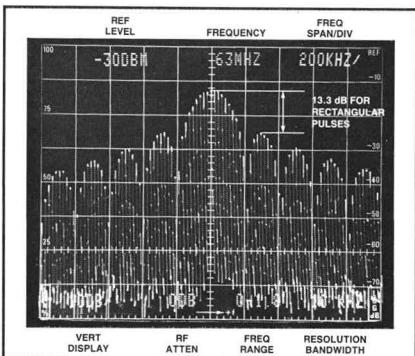
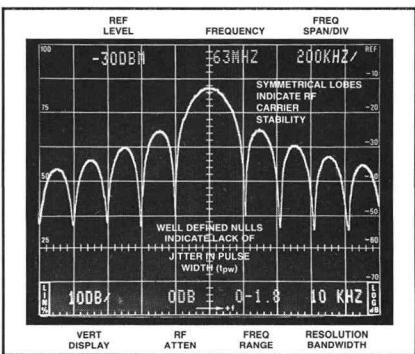

Figure 26. Frequency domain display of pulse waveform.
Figure 27. Envelope of pulsed signal
The same pulse waveform when displayed in the frequency domain would appear as shown in Fig. 26. Note that the pulse width (t_{pw}) and
display shown in Fig. 27. We can see that the amplitudes in Fig. 26 lie within the area described by Fig. 27. The big question is "Why do we see discrete signals in Fig. 26 if the waveform is composed of an infinite series of frequencies?"
The answer lies in the fact that swept frequency analyzers only analyze a specific frequency at a specific time as the beam traces across the screen. Each time a pulse is generated, the analyzer will analyze the amplitude of the frequency component at the frequency being analyzed at that instant. If the pulse repetition period (t_r) of the pulse was 1 ms and the analyzer was sweeping through the frequency spectrum at 1 ms/div, we would see one spectral line/div. If we slowed the sweep speed to 100 ms/div, we would obtain 100 spectral lines/div, which would clearly show the envelope display of Fig. 27. We need to remember that although we are varying the sweep speed, we are not changing the span of frequencies being analyzed, just the rate at which we are analyzing them. To compute the repetition rate from Fig. 26, determine the number of divisions/spectral line and multiply by the sweep speed/division.
1. For a rectangular pulse, the 1st sidelobe should be approximately 13.3 dB below the main lobe (see Fig. 26).
2. If the nulls are not well defined, the pulsedwidth (t_{pw}) is FM'ing (see Fig. 27).